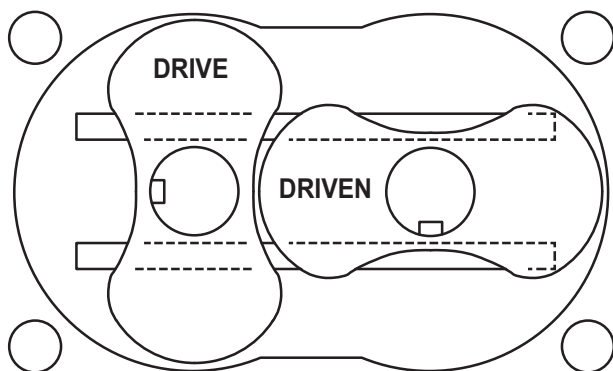

Figure 8-1 – Keyways
- Set each rotor into position in the housing with the gear end (long shaft) up. Face keyways in the direction shown in **Figure 8-1.** This will position the rotors so they will match the keyways in the gear.